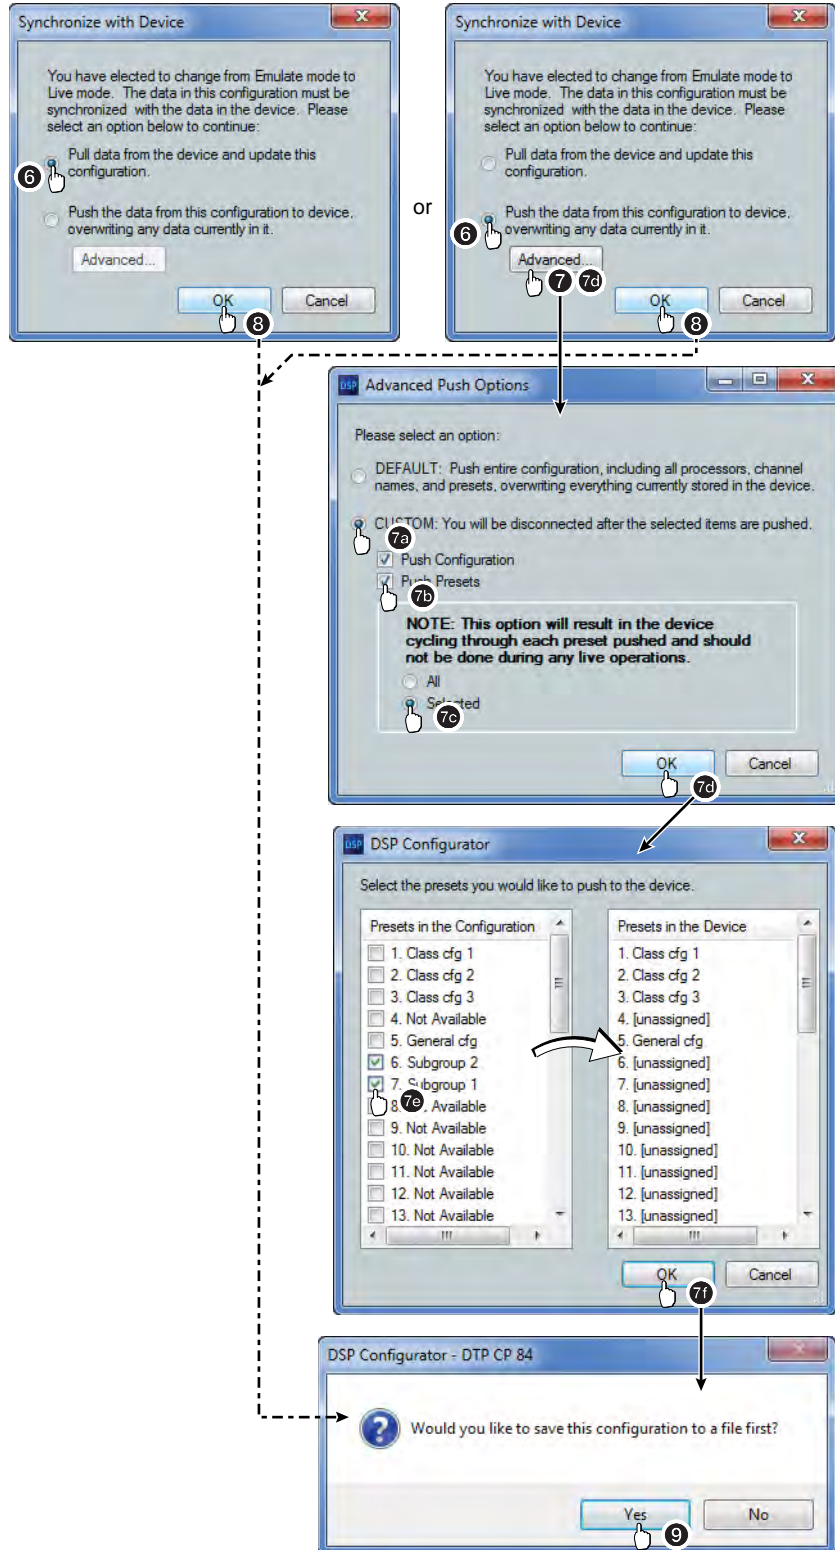

Figure 59. Selecting Live Mode, Continued
The Synchronize with Device dialog box (see figure 59, on the next page) appears. Proceed to step 6.
The Synchronize with Device dialog box (see figure 59) appears. Proceed to step 6.
6. If necessary and as desired, click (see figure 59) either the:
7. If you want to tailor the push to the switcher (push just the configuration, just the presets, or the configuration and selected presets), click the **Advanced** button (see figure 59, on the previous page) and proceed to step 7a.